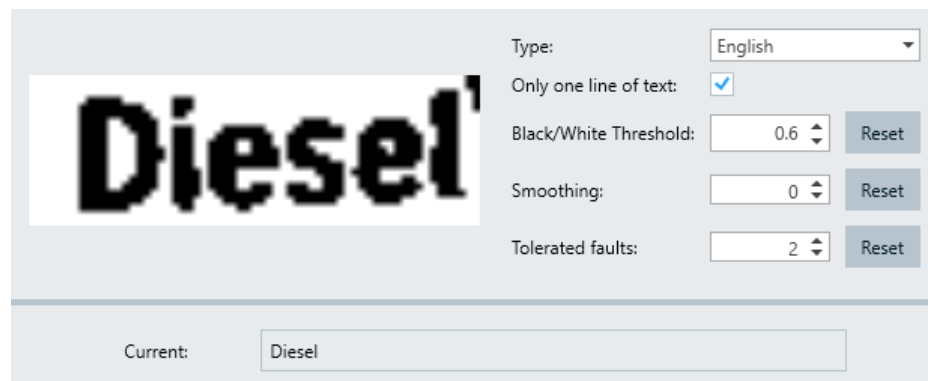

Figure 6-15: Good detection due to monochrome background
- Use a "Black/White Threshold" value, which best ensures that the detected contents (the characters to be recognized) appear as black text on a white background as in Figure 6-15.